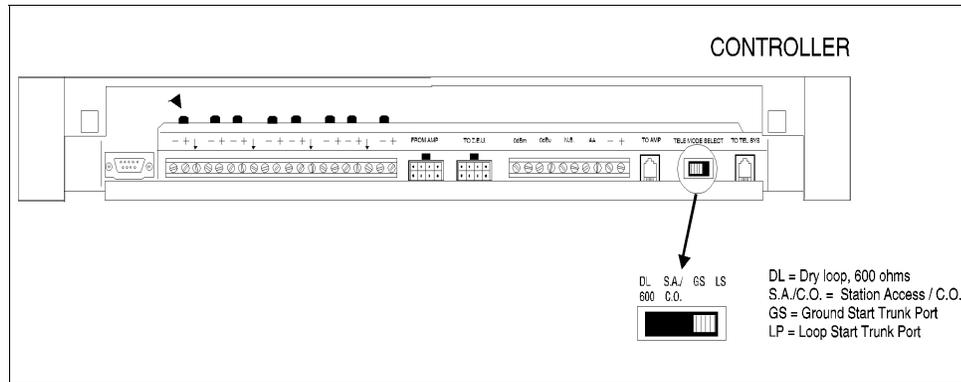

Figure 10. Setting Controller Telephone Mode Switch
- Set Telephone Mode switch on Controller to match host telephone system interface port type. See Figure 10.